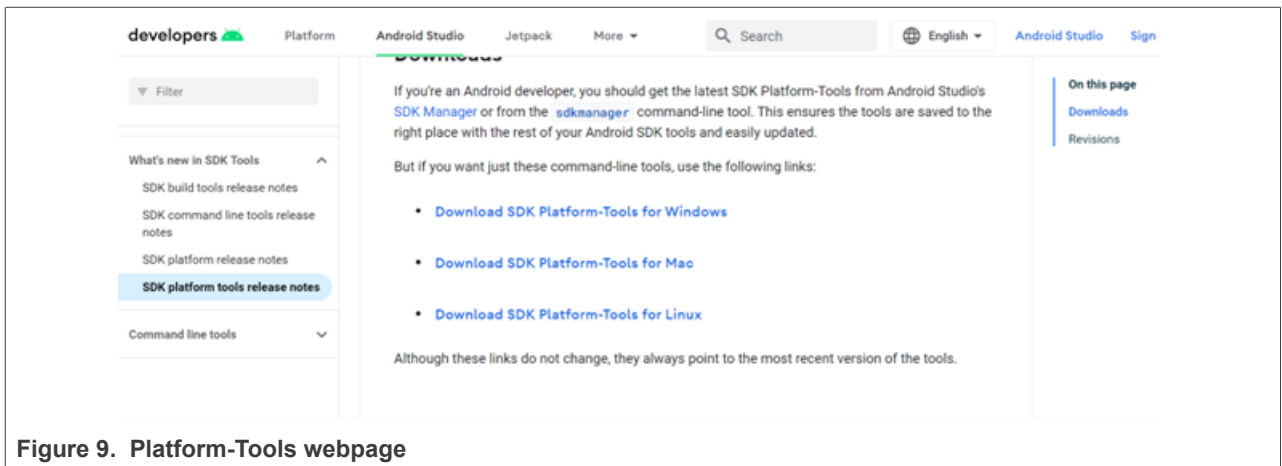

Figure 9. Platform-Tools webpage
1. Download platform-tools from [4] (see Figure 9).